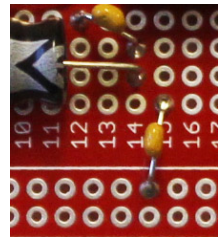

Figure 6
6. Solder one wire of C4 to hole a15 and the other wire to a nearby hole in bottom negative power bus (Figure 6).